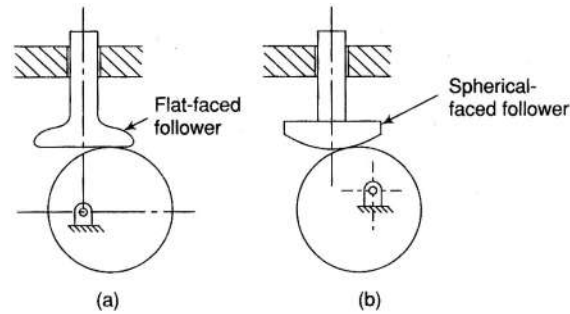

Fig.2
(iii) Mushroom follower : A mushroom follower (Fig. 2) has the advantage that it does not pose the problem of jamming the cam. However, high surface stresses and wear are quite high due to deflection and misalignment if a flat-faced follower is used [Fig. 2(a)]. These disadvantages are reduced if a spherical-faced follower [Fig. 2(b)] is used instead of a flat-faced follower.
- (i) **Radial Follower :** The follower is known as a radial follower if the line of movement of the follower passes through the centre of rotation of the cam [Figs 2(a) and (b)].
- (ii) **Offset Follower :** If the line of movement of the roller follower is offset from the centre of rotation of the cam, the follower is known as an offset follower [Fig. 2(c)].